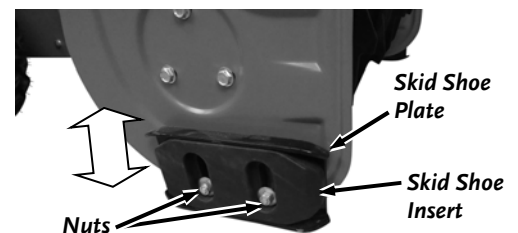

Figure 37
1. Loosen the two Jam Nuts using a 1/2" Wrench (**Figure 37**).